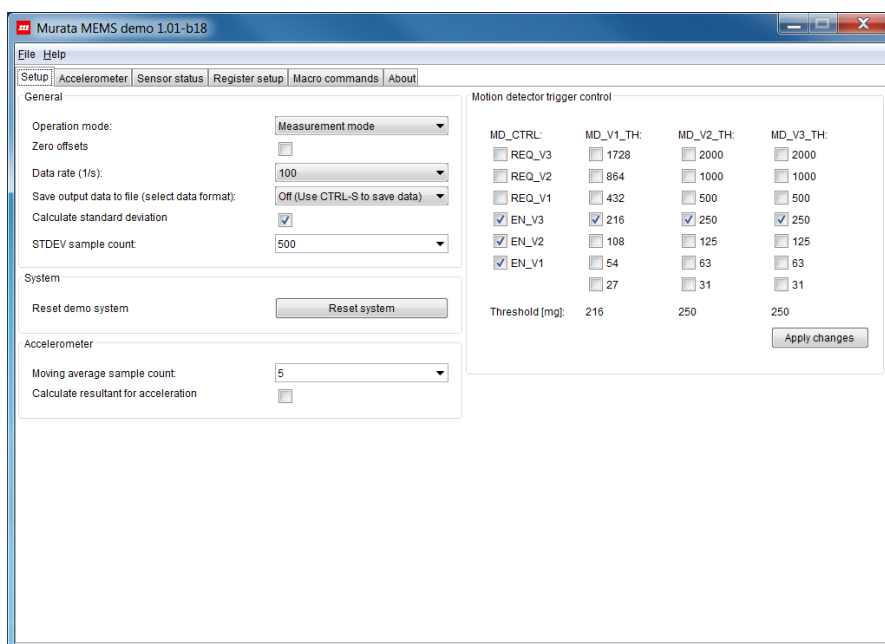

Figure 17. Sensor-specific features for SCA3060 sensors
Figure 17 shows the Setup view for SCA3060 sensors. This sensor has controls for selecting motion detector trigger parameters. These parameters will have an effect when the operation mode is set to *Motion detect (MD)* mode.